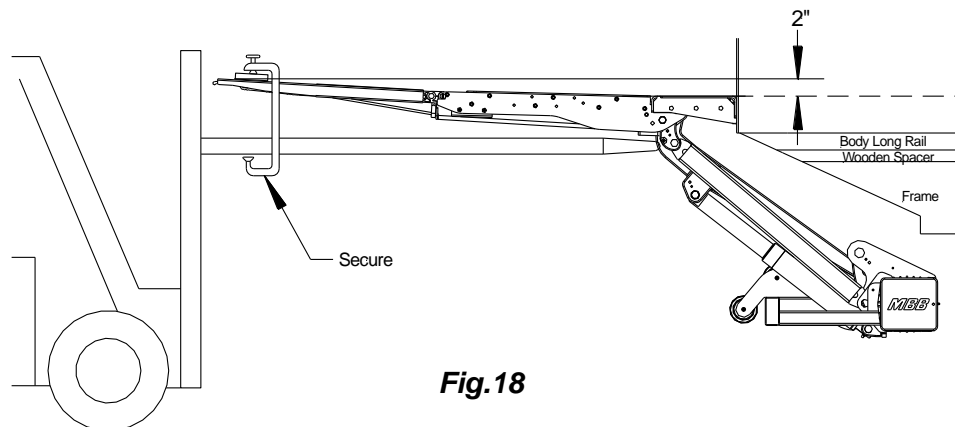

Fig.18
1. **Hoist Platform:** Unfold platform manually and clamp forklift forks, overhead crane or equivalent to platform. Make sure the platform is secured. Always maintain the mount tube centered to the vehicles body. Make sure the tip of the platform is pitched up 2" and the platform is centered to the bed extension, **Fig.18**. Verify that both liftams are flush with both upstops on the underside of the bed extension, **Fig.19**. **Important: Verify the bolts and nuts are installed on each swing fixture, Fig.20.**